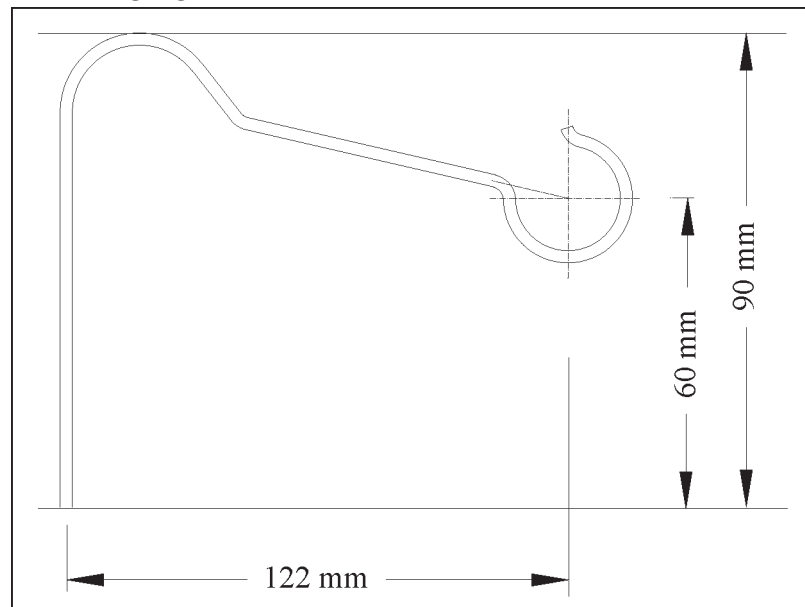

Figure 13 Float Wire Adjustment
Figures 13 and 14 are mirror inverted also valid for the float wire in the RH wing tank if the optional MVP-50P is installed.
- 2 Remove the float wire and bend it in form like shown in the following figure 13: